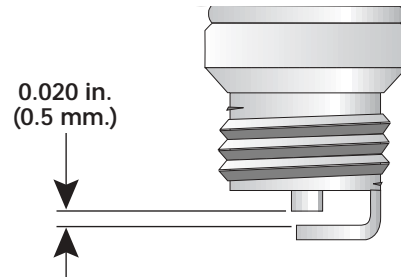

Fig. 26
3. Replace cracked, fouled or dirty spark plug. Set the air gap at 0.5 mm (0.020 in.) using a feeler gauge (Fig. 26).